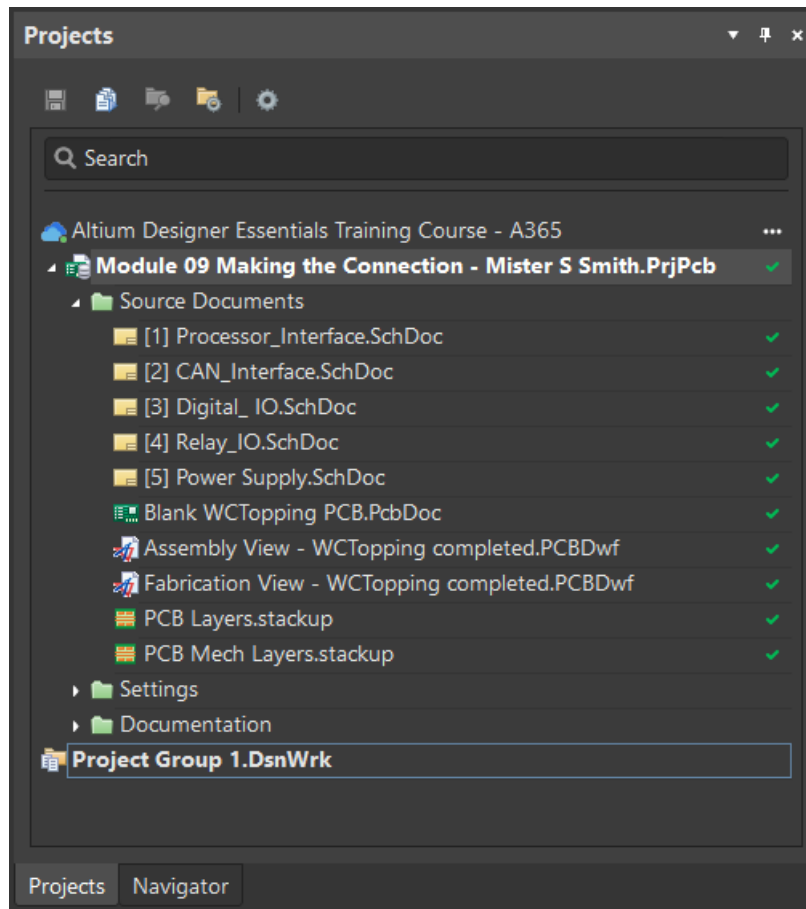

Figure 6. New Project based on the Predefined Training Project
13. As a result of the Copy/Clone process, you will now see a new project in your Project panel, similar to Figure 6.